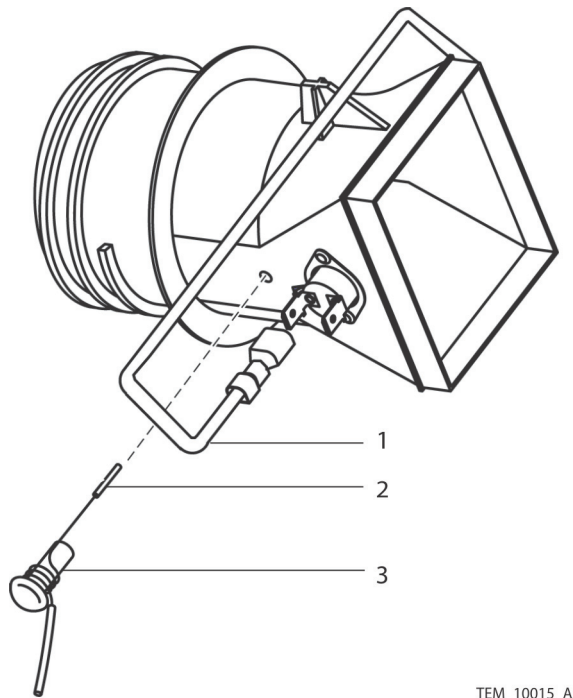

Figure 56. Thermistor Removal
3. Carefully slide the thermistor out of the duct adapter assembly. See Figure 56, item 2.